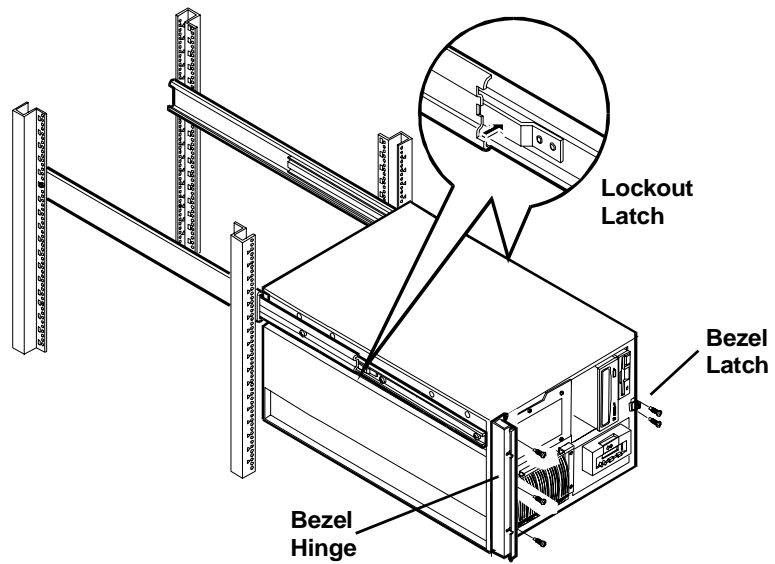

Figure 8-16. Location of Lockout Releases, Bezel Latch, and Bezel Hinge
9. Attach the bezel hinge to the server by inserting three screws through the right edge of the bezel hinge bracket and into the left front of the server. See Figure 8-16.
11. Depress the lockout releases, and push the server completely into the rack. See Figure 8-16.